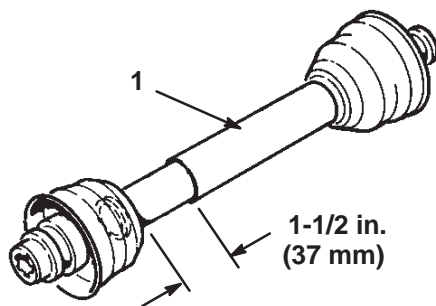

Figure 3
3. At its shortest length, the two halves of the PTO shaft must have at least 1-1/2 inches (37 mm) of additional clearance to collapse (Fig. 3). If the dimension in step 1 is not at least 1-1/2 inches (37 mm) greater than the dimension in step 2, the PTO shaft is too long; proceed to step 4. If there is enough clearance to allow the PTO shaft to collapse, proceed to step 9.